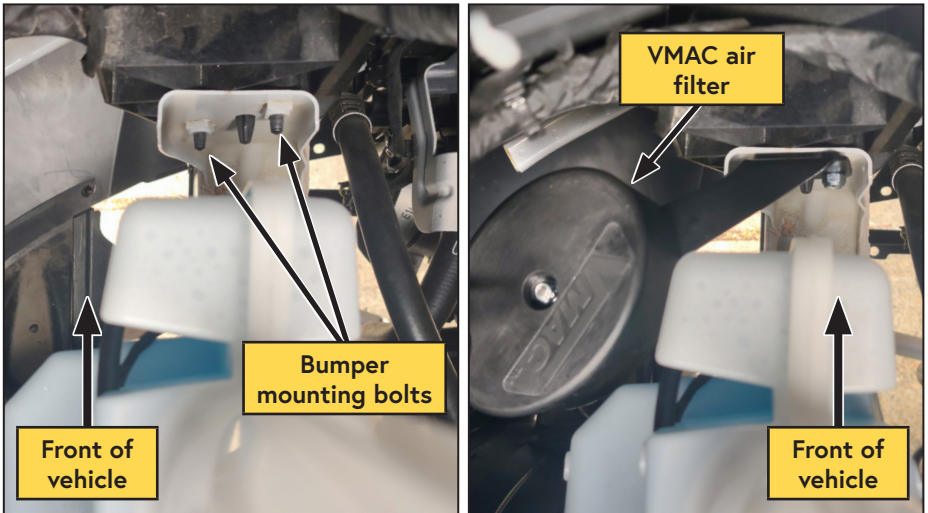

Figure 13 — Install compressor air filter bracket
- Using the supplied M8 lock nuts, secure the air filter bracket to the driver side bumper mounting bolts (located in the void beneath the driver side headlight) (Figure 13).
- Route the compressor air intake hose from the bottom of the VMAC air filter assembly, along the cross member below the radiator, to the compressor (Figure 13).